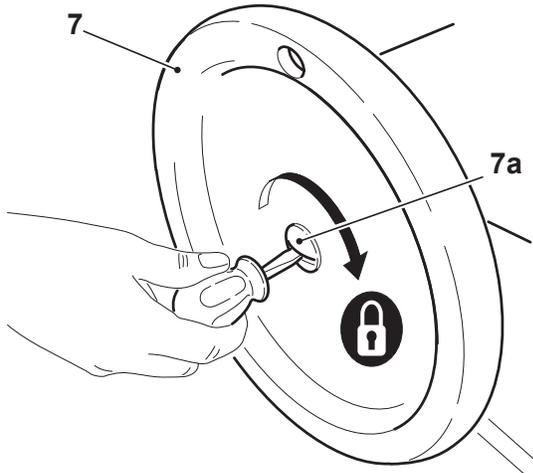

Figure 10-1
7. Tighten the flywheel (7) to the flywheel shaft with the screw (7a) (Figure 10-1).